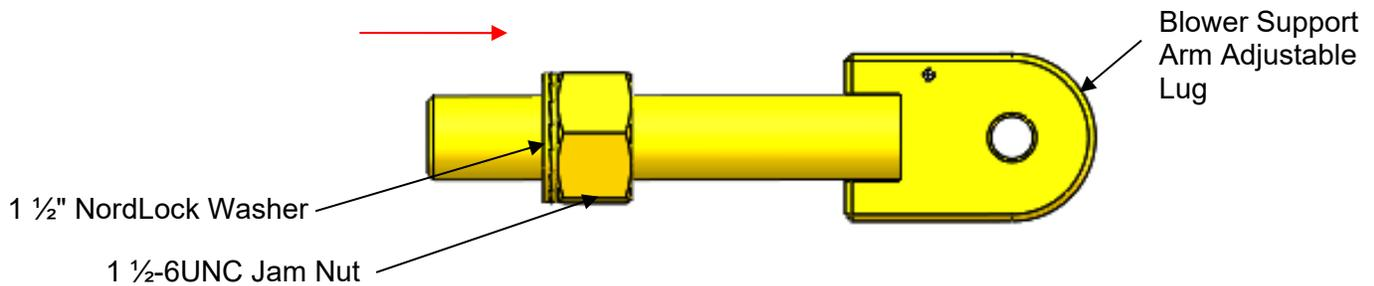

Figure: 4.10 Threading the jam nut
4. Prior to threading the blower support arm adjustable lug on the blower support arm cylinder body, thread the 1 ½-6UNC jam nut approximately ¼ of the way up the thread on the blower support arm adjustable lug and slide the 1 ½" NordLock washer down on the nut as shown in Figure 4.10.